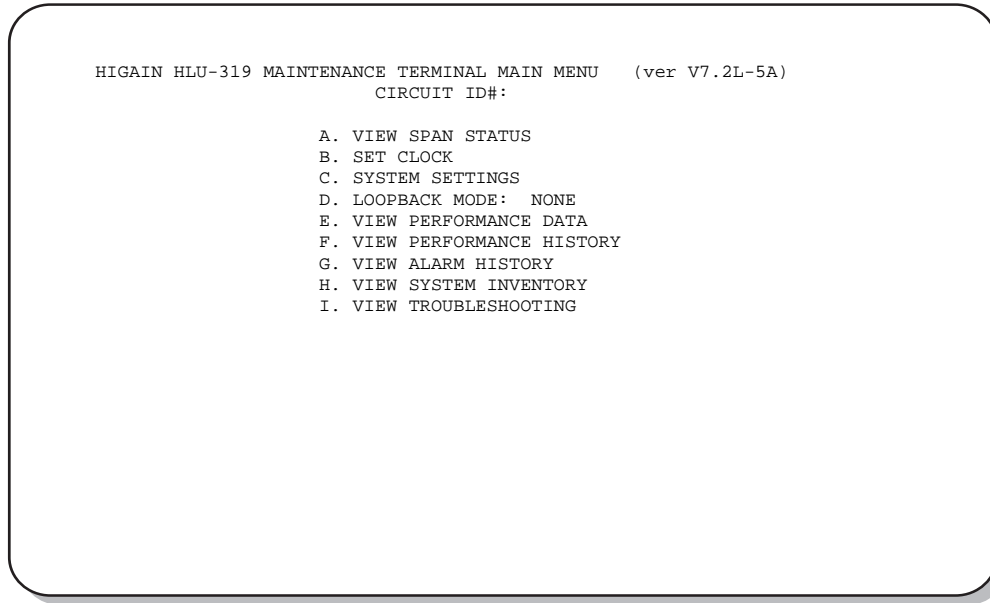

Figure 3. Maintenance Terminal Main Menu
- Use a maintenance terminal (ASCII terminal or a PC running terminal emulation software) connected to the HLU craft port to access the Maintenance Terminal Main Menu (Figure 3 on page 14). This gives you full access to all HLU status, history, inventory, and provisioning screens.
Figure 3 shows the Maintenance Terminal Main Menu from which you can access system administration screens. The function of each screen selection is listed in Table 4. To access a screen, type the letter shown next to the menu item.